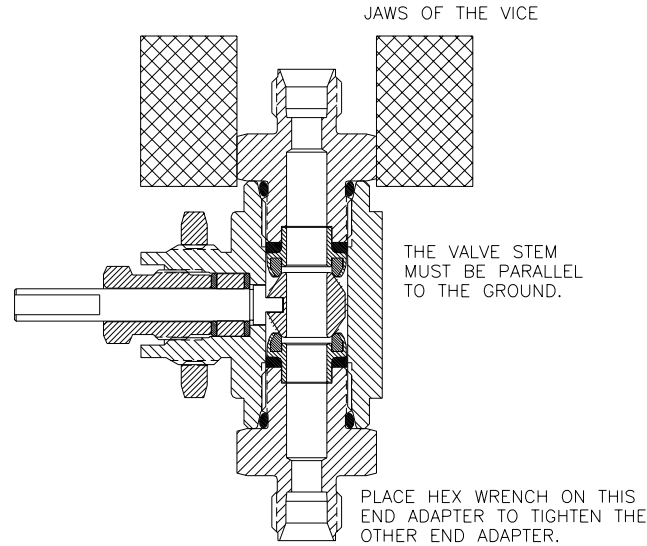

Figure 4: Position of Valve Body during tightening of End Connectors
18. Secure one End Connector (not the Valve Body) of the Ball Valve so that the Stem is horizontal, as illustrated in Figure 4.